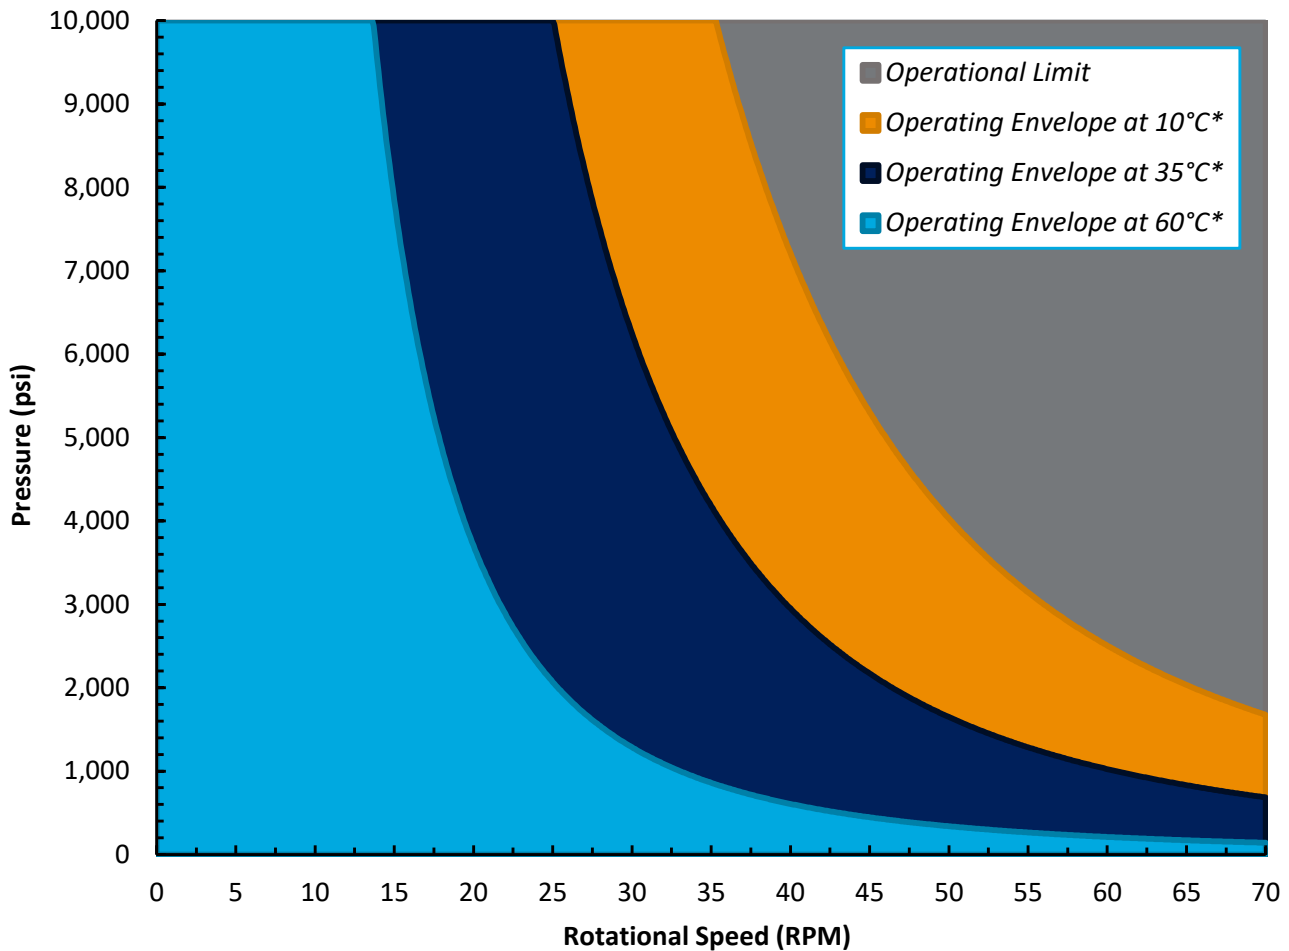

Figure 1: Pressure-Rotational Speed operating envelope
2. See Figure 1 for Pressure-Rotational Speed operating envelope.
The graph shown in Figure 1 is intended as a guideline for maintaining tool temperature below the maximum of 194 °F (90 °C). The Cement Swivel can be operated **intermittently** within the *Operational Limit* and **continuously** within the *Operating Envelopes*. Contact Volant Support if planned operating conditions exceed the *Operating Envelopes* presented.